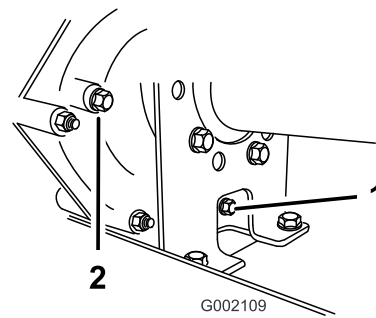
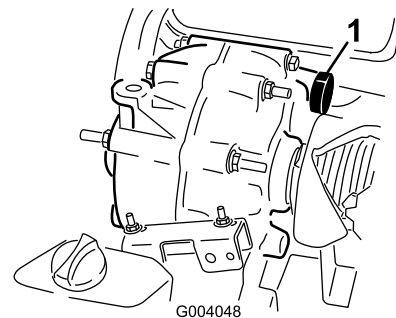

Figure 46
Figure 47
2. Wipe the area around the fill and drain plugs clean with a rag (Figure 46).
4. Remove the fill plug by rotating it counterclockwise (Figure 46).
5. Remove the drain plug by rotating it counterclockwise (Figure 46).
6. Install and tighten the drain plug and gasket into the drain-plug hole of the transmission (Figure 46).
7. Fill the reservoir (Figure 47) through the fill-plug hole with approximately 1.4 L (1.5 US qt) of the specified fluid or until the fluid level in the transmission is even with the bottom of the threads. (Figure 46).
8. Install and tighten the fill plug and gasket into the fill-plug hole of the transmission (Figure 46).
- Check the fluid level and add more fluid if the level is below the threads of the fill-plug hole (Figure 46).